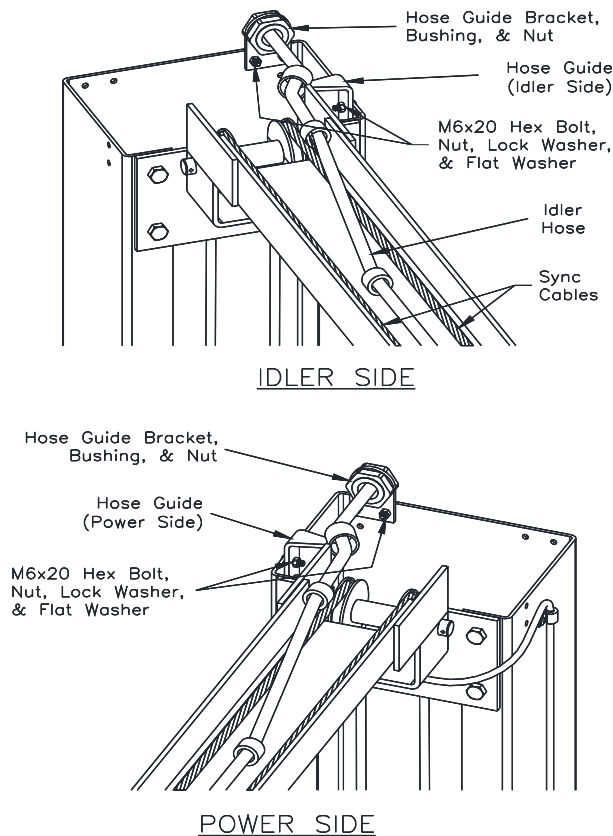

Fig. 8 – Column Extensions
- 25) Beginning on the idler side, attach the idler hose to the cylinder elbow fitting. Route the idler hose (long) up the backside of the column and thru the plastic guide at the top of the extension. Continue across the overhead through each of the guides as shown in **Fig 8** and down the backside of the power column.
- 29) Use hardware shown in **Fig 8** to install bolt-on hose guide components.